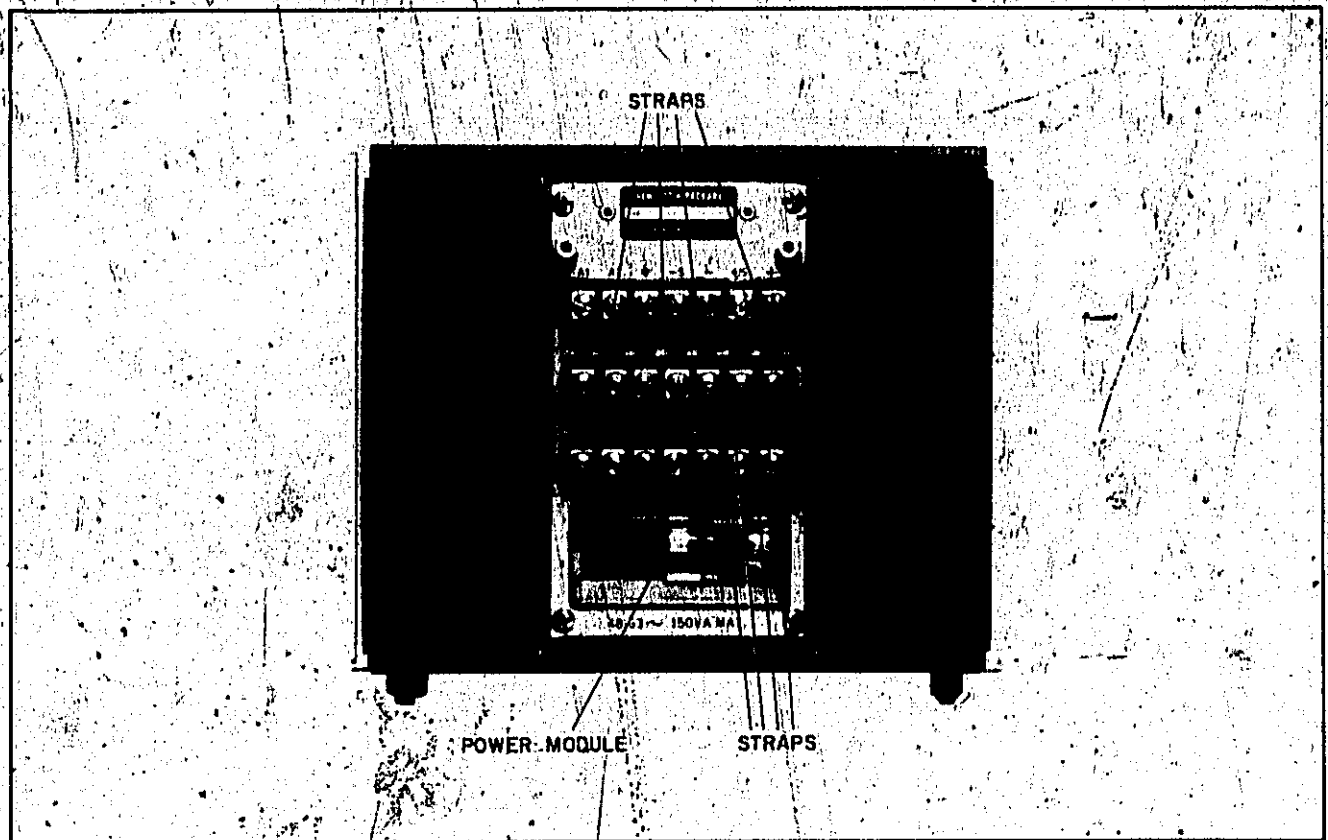
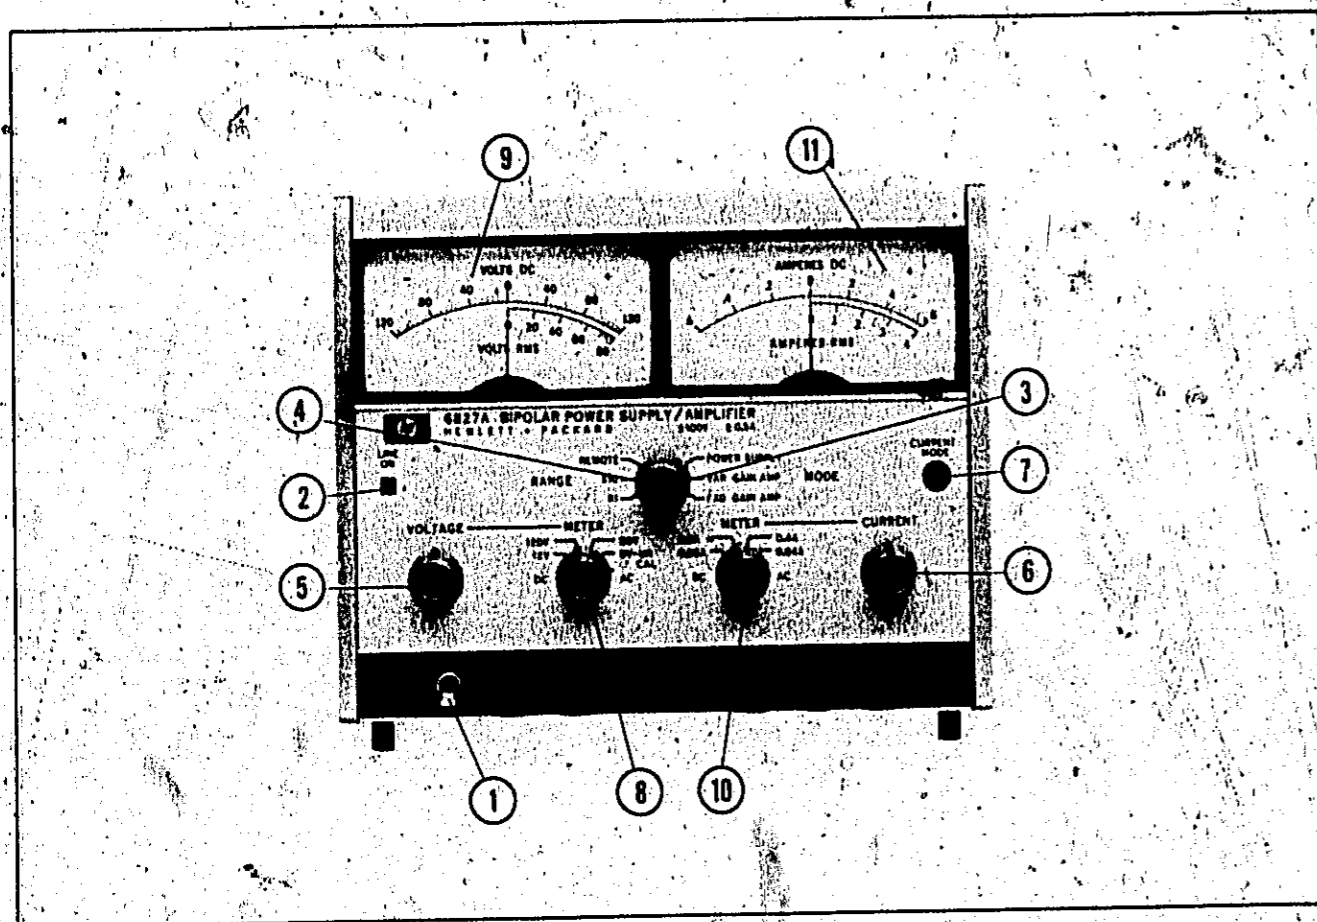

Figure 3-1: Bipolar Power Supply/Amplifier, Models 6826A and 6827A, Rear View
Figure 3-2. Operating Controls and Indicators
3-4 The Bipolar Power Supply/Amplifier (BPS/A) is shipped with the rear terminals strapped for local programming (using front panel controls) as shown in Figure 3-1. Remote programming strapping requirements are described in subsequent paragraphs. The power module contains fuse F1 (2A for 115Vac or 1A for 230Vac) and a slide switch for connecting 115Vac or 230Vac input power to the instrument. To turn on the BPS/A, set the LINE switch (item ①, Figure 3-2) to ON. The LINE ON indicator ②
3-21 The following turn-on and checkout procedures are performed utilizing the front panel controls (Figure 3-2) and the normal rear terminal strapping connections as received from the factory. Also, the Local/Auto switch, located inside the instrument on board A2, is in the Local position (pushed to the right or toward the rear of the instrument) as received from the factory. The AUTO position is used for auto-series and auto-parallel operations (see Paragraphs 3-57 through 3-61). The following procedures check both power supply and amplifier to ensure that the BPS/A is operational.